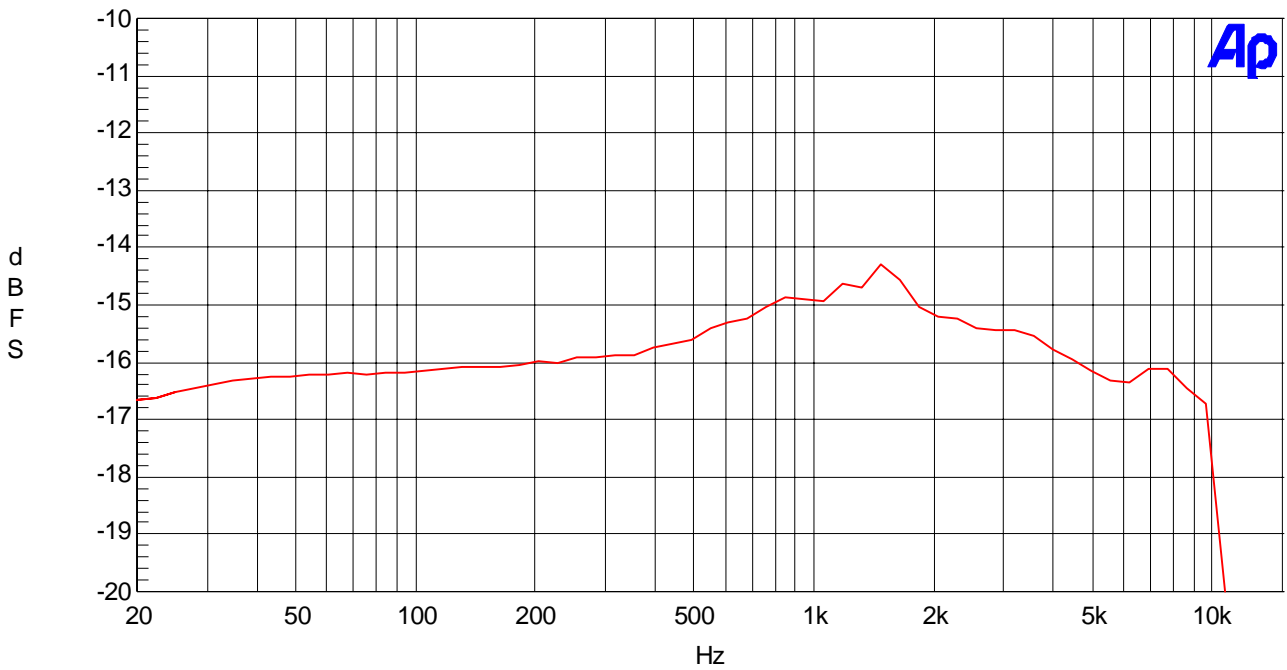

Figure 19. Frequency Response (-15dB)
- Figure 19. Frequency Response (-15dB)